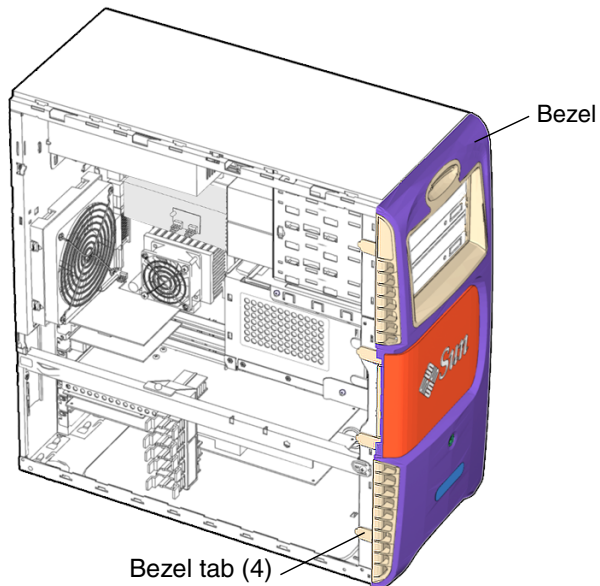

FIGURE 15-5 Bezel and Bezel Tabs
4. Fasten the bezel to the chassis (FIGURE 15-5).